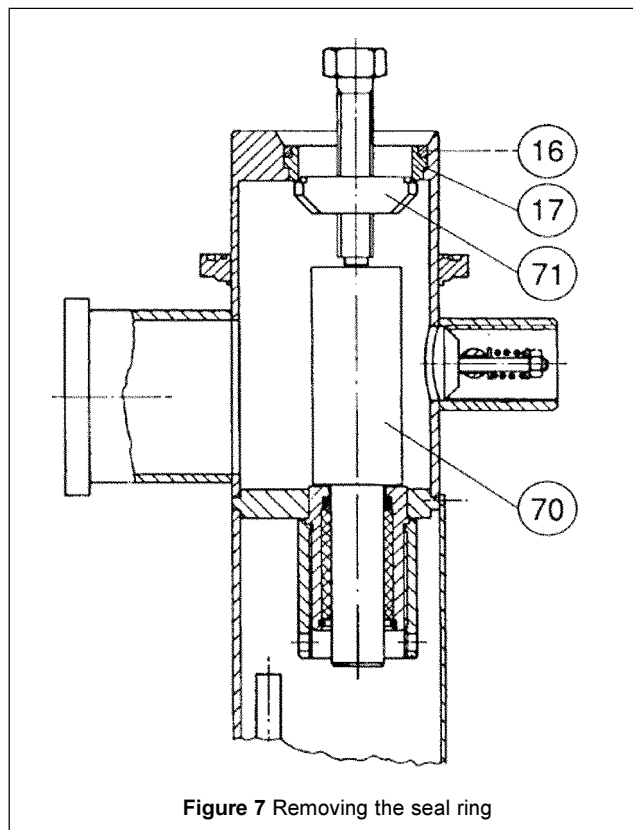

Figure 7 Removing the seal ring
### 4.2. Removing the seal ring (17, Fig. 7)
- Mount the sampler on a vise, in the position shown in Fig. 7.
- Push in the counterpin (70) as shown in Fig. 7.
- Remove the seal ring (with locking ring) with the extracting tool (71).
(Also installing the locking ring, part 16 in Fig. 7, in Hastelloy version)